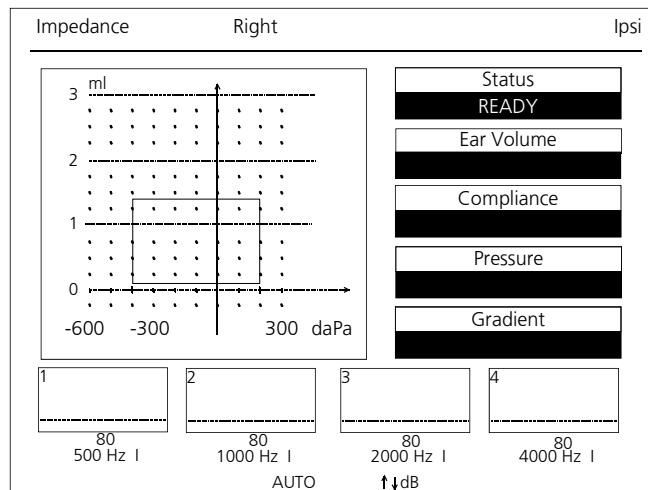

Figure 20 Display Tympanogram + Reflex
Set the desired volume level with the Down-key ⑩ respectively the Up-key ⑫. On the LCD display ⑤ below the reflex boxes at the bottom the selected level in dB (in example figure 20, 80 dB) appears. The "I" indicates that an ipsilateral test is selected. You can choose between the fixed levels 70, 75, 80, 85, 90, 95 and 100 dBHL and AUTO with a starting level of 70 or 80 dBHL. If you choose AUTO the MI 34 starts with the lowest level 70 dBHL or 80 dBHL and increases the level automatically until a reflex is registered or the maximum value is reached. You can choose your individual starting